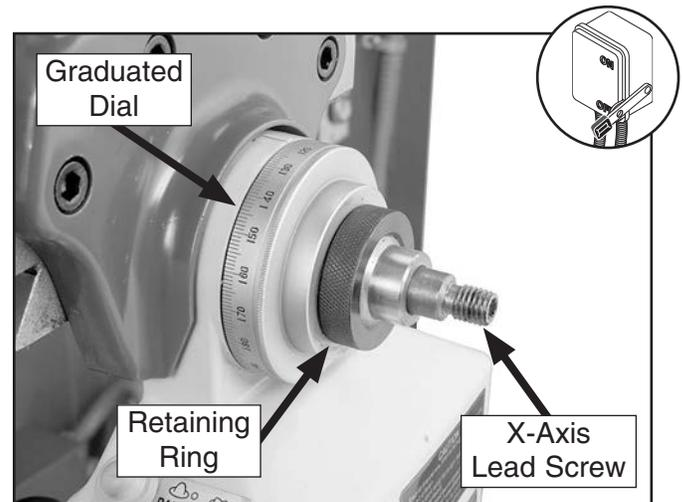

Figure 60. Power feed with the handwheel removed.
2. Use a 19mm wrench to remove the acorn nut, and handwheel from the power feed unit (see **Figure 60**).